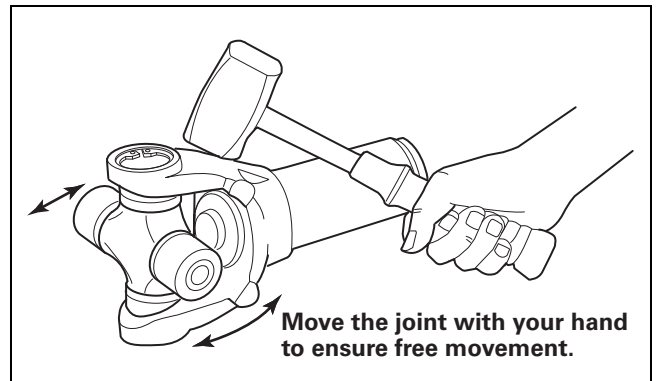

Figure 8.29
- Strike the yoke ear with a brass or copper hammer to ensure that the universal joint moves freely. Figure 8.29.